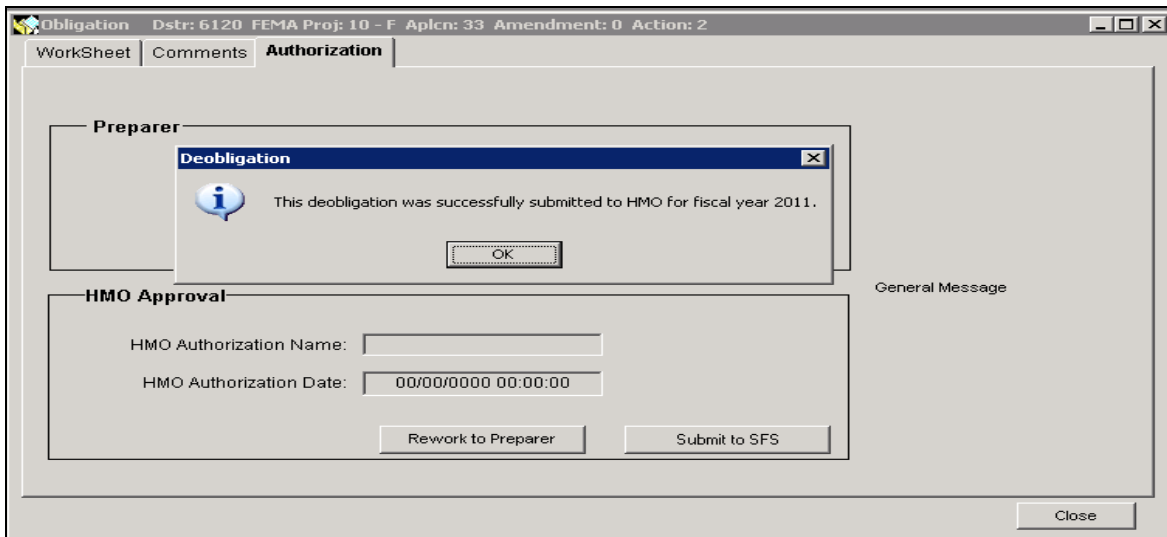

Figure 10-78: Deobligation submitted to HMO for FY notification
22. The system will notify that the deobligation was successfully submitted to the HMO and for what fiscal year it was submitted. (Figure 10-78)